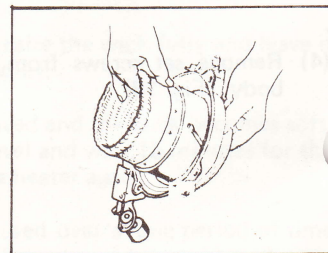

Fig. 22
- (8) Remove the wick holder assembly. (Fig. 22)